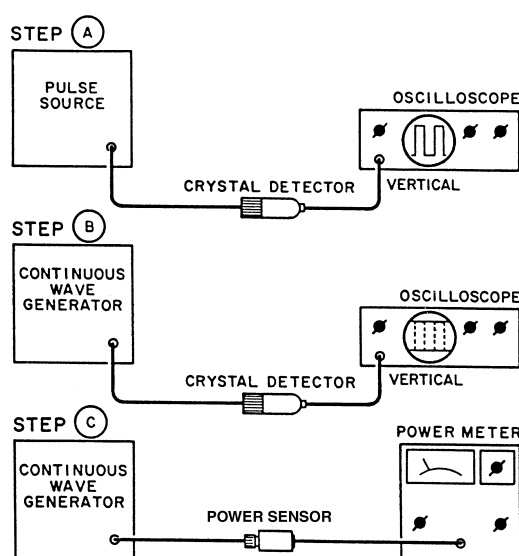

Figure 1 Peak Power Measurement
1. Connect equipment as shown in Figure 1, step A. Observe the pulse on a de-coupled oscilloscope. Using a marking pencil, mark on the graticule the base-to-peak amplitude of the pulse envelope.